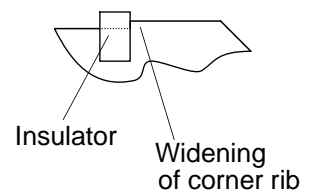

Fig. 902 Remove/fit the casing parts
The cover (1, Fig. 902) can be carefully levered off using a blunt blade in the areas marked (X).
Both covers (3 and 6, Fig. 902) can be released from their mountings and removed by pressing the four detents at the top and bottom using a suitable tool.
The shell (2, Fig. 902) can be lifted off by pulling it upward.
By pulling the bottom shell (4, Fig. 902), on both sides gently around areas (Y), you can release the fixing and the shell can be taken off the motor casing.
- Slide the four insulators (7, Fig. 902) onto the four corner ribs of the heat exchanger and position them exactly next to the widened rib area.
- Make sure that all four insulators (7, Fig. 902) are firmly seated.
When you fit the bottom shell (4, Fig. 902), spread it slightly so that the spacers on the overheating sensor (8, Fig. 903) are not damaged.
1. Expand the bottom shell (4, Fig. 902) slightly at the side and fit it to the heater from underneath until the securing pins on the heater engage in the holes in the shell.
1. Place the top shell (2, Fig. 902) on the heater and secure it in the grooves in the bottom shell.
1. Push on the covers (3 and 6, Fig. 902) until the four securing holes engage properly in the detents on the bottom and top covers.
1. Fit the grilles (5, Fig. 902) on the covers for the hot air inlet and outlet and twist them to secure them.
1. Slide on the cover (1, Fig. 902) until it audibly engages in the top cover.